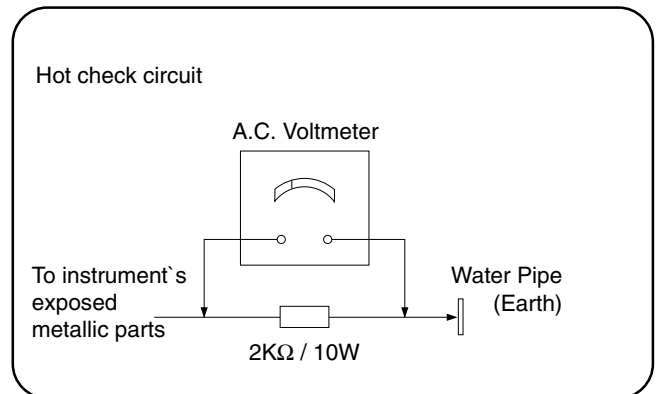

Fig.1a Leakage current hot check
2. Connect a  $2k\Omega/10W$  resistor in series with an exposed metallic part on the receiver and an earth such as a water pipe (fig.1a).